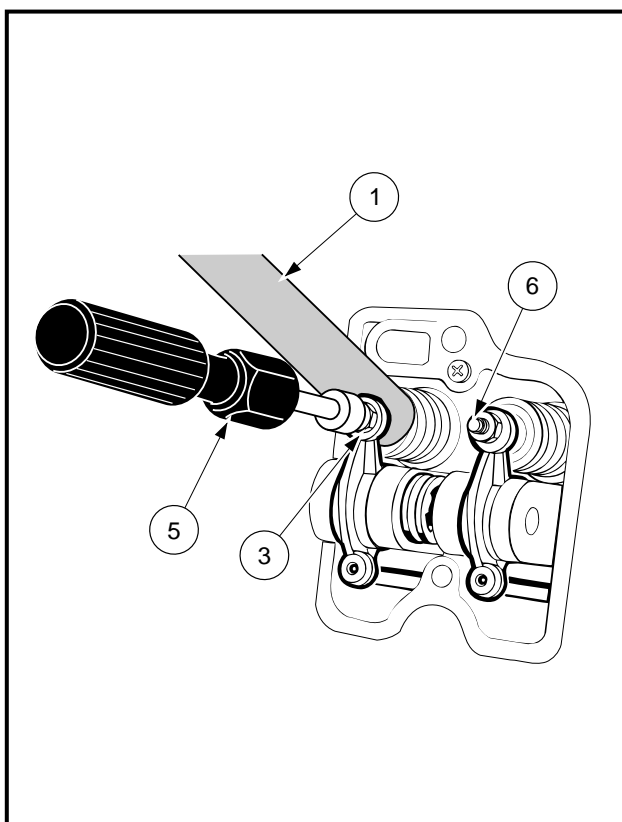

Figure 13-39 Valve Clearance
3. Using a feeler gauge (1), measure the clearance (2) between the adjuster screw (3) and the top of the valve stem (4) (**Figures 13-39 and 13-40**).
4. If necessary, loosen the locknut (3) and turn the adjuster (6) up or down to adjust the clearance to 0.005 inch (0.127 mm) for both intake and exhaust (**Figure 13-39, Page 13-21**).
5. While keeping the adjuster from turning with the screw holder (5) (Club Car Part No. 1016413), tighten the locknut (3) to 90 in-lb (10 N·m) (**Figure 13-39, Page 13-21**).